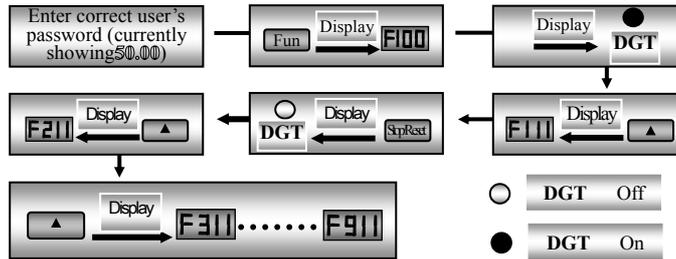

Fig 1 Switch over in a Code Group or between Different Code-Groups
E.g. when function code shows F111 and DGT indicator is on, press “▲”/“▼” key, function code will keep increasing or decreasing by degrees within F100 ~ F160. Press “stop/reset” key again, DGT LED will be off. When pressing “▲”/“▼” key, function codes will change circularly among the 10 code-groups, like F211, F311...FA11, F111... Refer to Fig 1 (The sparkling “50.00” is indicated the corresponding target frequency values).